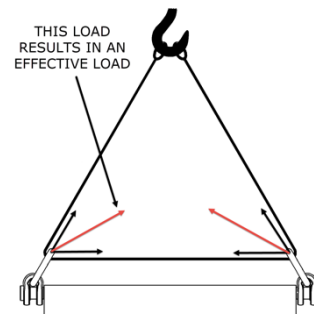

Fig 6
- NEVER reeve slings from one bail/ring to another (Fig.6).